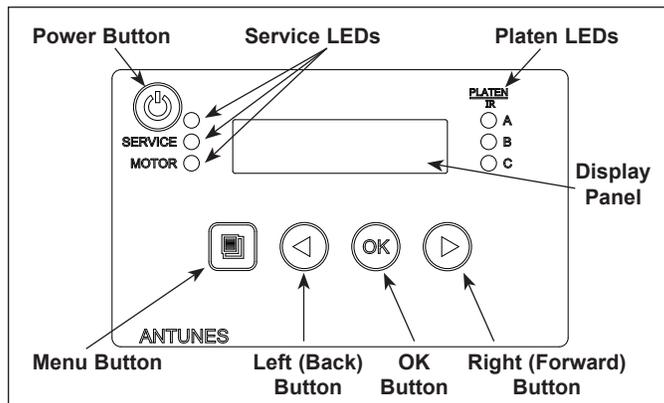

Figure 3. HCT-5H Control Panel
2. See Figure 3. Press and hold the MENU button for five seconds.
3. To change a setting, press the **OK** button and then press ◀ and ▶ to adjust as needed. Press the **OK** button again to save the changes. See Figure 3.